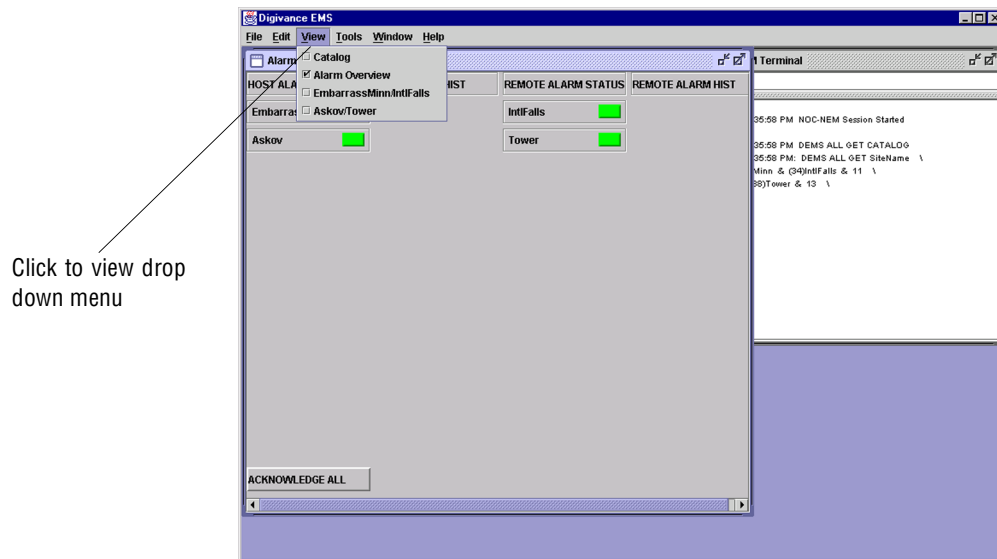

Figure 3-1. Digivance Element Management System Main Window
8. Start up the EMS Version 3.01 software program. The EMS main window will open as shown in Figure 3-1. Note: The EMS software should be installed on a PC-type computer and the PC's COMM port should be configured to interface with the HU. For information about installing the EMS software and configuring the PC's COMM port, refer to the Digivance Element Management System Version 3.01 User Manual (ADCP-75-151).